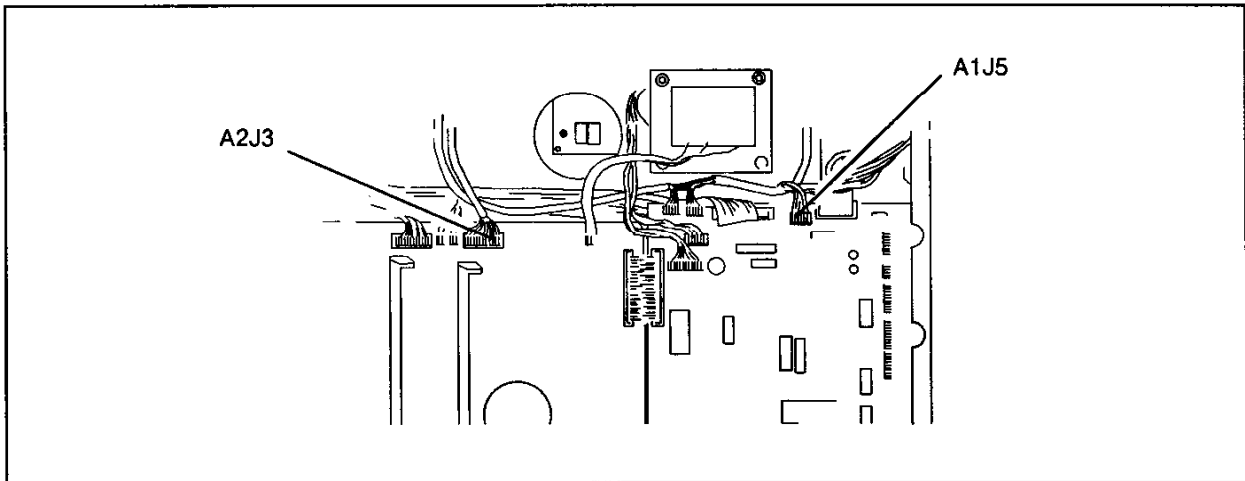

Figure 6-25. Motor/Encoder Connectors
- a. Turn the plotter line switch to OFF (O) and disconnect the ac power cord.
- d. Remove the motor/encoder connectors from J5 on the Processor PCA and J3 on the Analog PCA. See Figure 6-25.